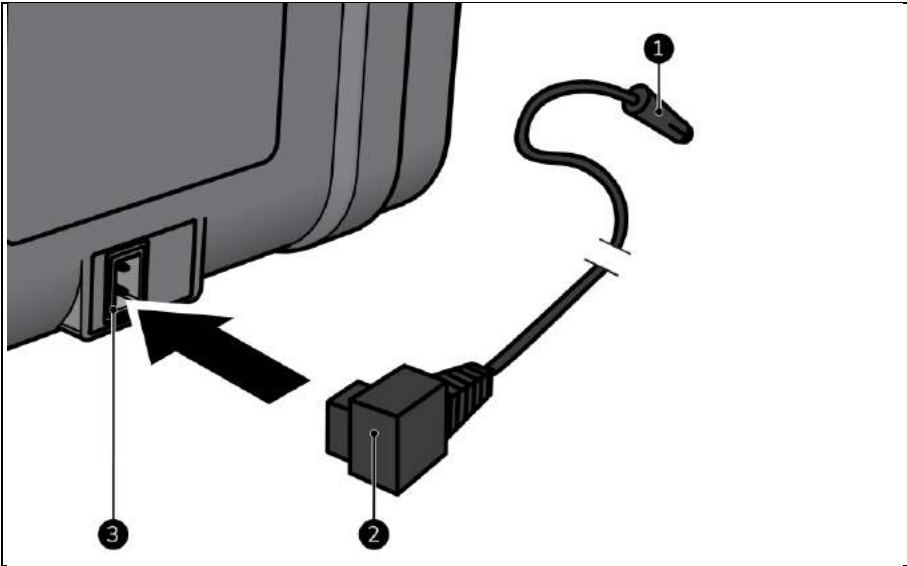

Figure 8
3. Place the power connector (Figure 8, pos. 2) into the power supply of the device (Figure 8, pos. 3).
4. Place the auxiliary power plug (Figure 8, pos. 1) into an easily accessible 12 V or 24 V auxiliary power supply in a vehicle or vessel.